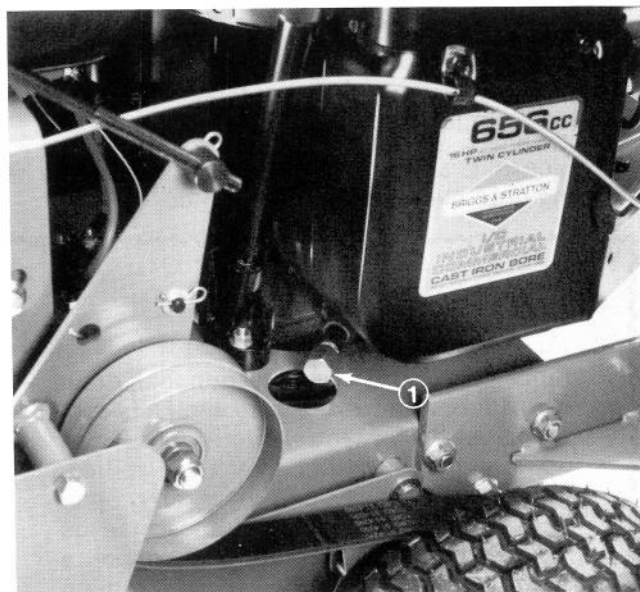

Figure 18
- B. Turn engine off and place drain pan under frame, below drain plug (Fig. 18). Remove drain plug and allow all oil to flow into drain pan. Install drain plug after oil stops flowing.